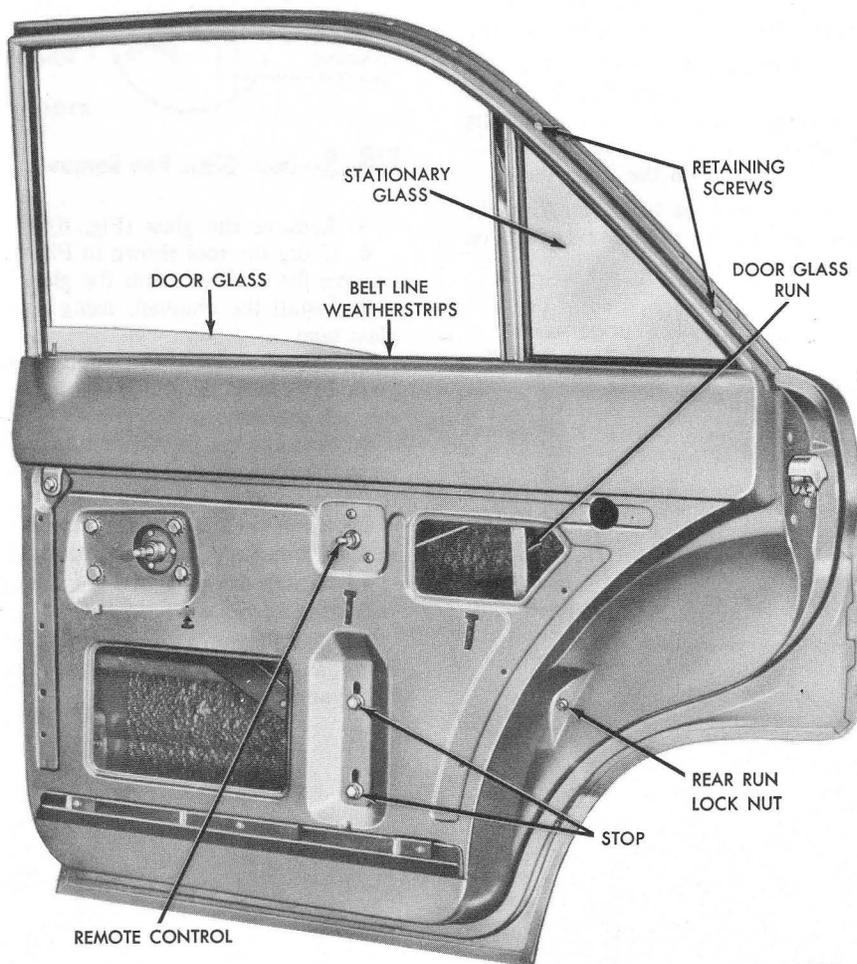
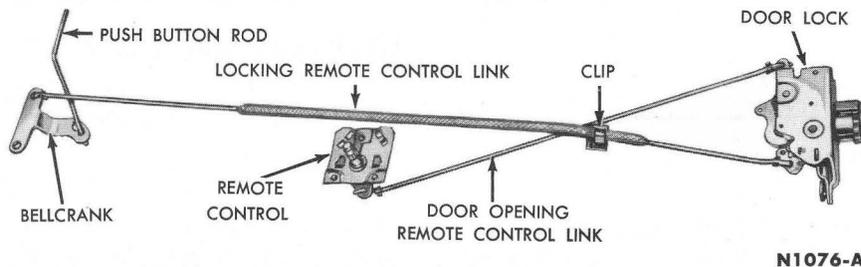

FIG. 7—Rear Door
FIG. 8—Rear Door Lock and Remote Control
means of the single stop (Fig. 7). When the glass is fully lowered, the upper edge should be even with the belt line.
Lateral adjustment for smooth movement of the glass within the runs can be made by moving the lower attaching points of the runs (Fig. 7).
3. Remove the belt weatherstrips, and remove the rear run adjusting nut (Fig. 7). Disconnect the remote control anti-rattle clip (Fig. 8).
1. Remove the rear run adjustment stud lock nut, pry the run from the division bar, and remove the run (Fig. 7).
2. Carefully pull aside the door weatherstrip, remove the window frame retaining screws (Fig. 7), and remove the window frame.